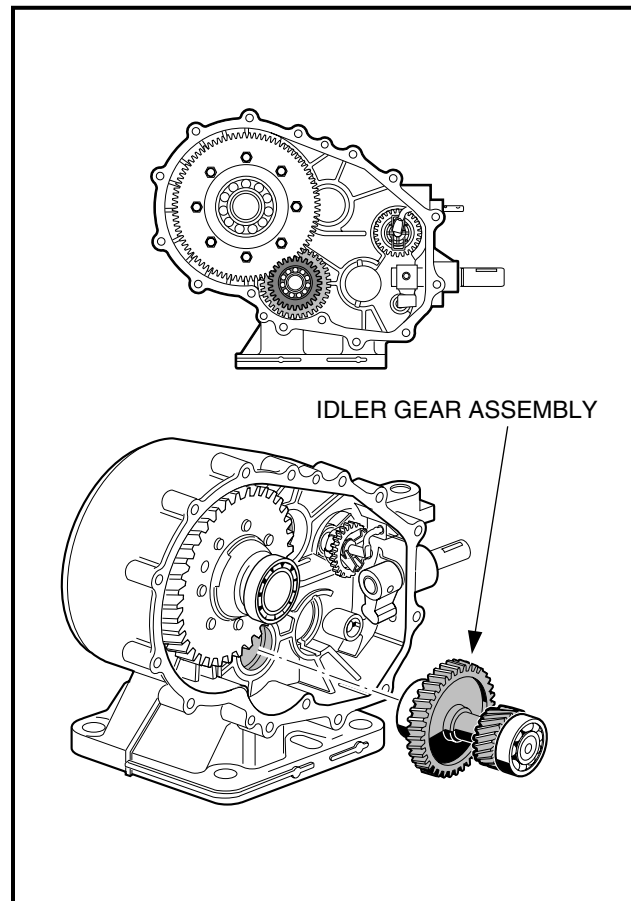

Figure 5-46 Idler Gear Assembly
- 7.2. Install the idler gear assembly into case. Do not seat the assembly in the bore, instead insert it far enough that it will not fall out. No gears mesh at this time (**Figure 5-46, Page 5-23**).